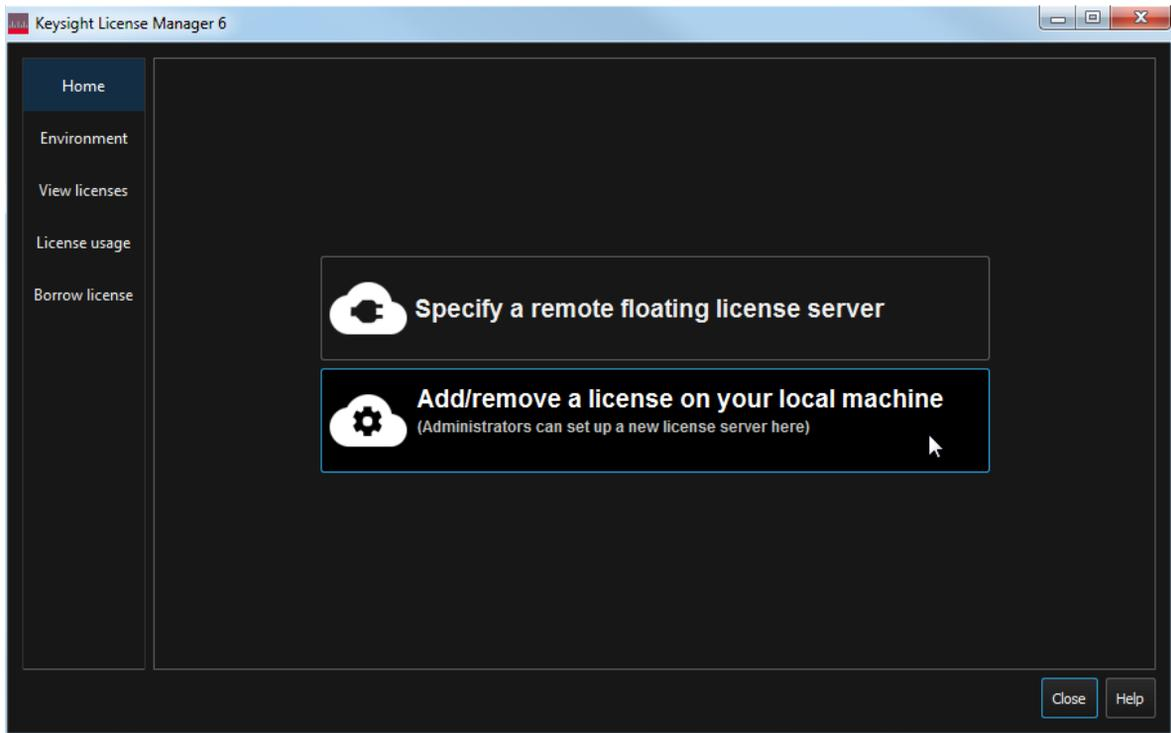

Figure 7 Home menu options to install licenses in KLM 6
- 3 From the Home tab (Figure 7), use one of the options to install each license file.